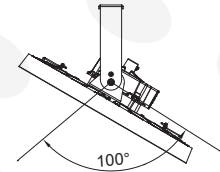

Figure 7
Step 4. After installation, connect the wire of the fixture to the mains according to local wiring rules, ensure the connection is stable and make good protection on the connection. By adjusting the brackets screws, users can adjust 50° to the left or right vertically. (Figure 7)